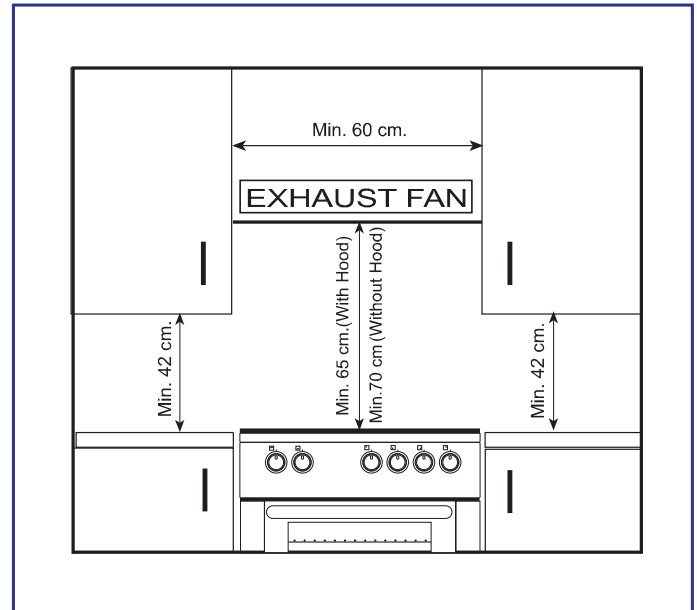

Figure 1
3. Surrounding furniture, cabinets and extractor fans should be positioned in accordance with the diagram shown in figure 1.